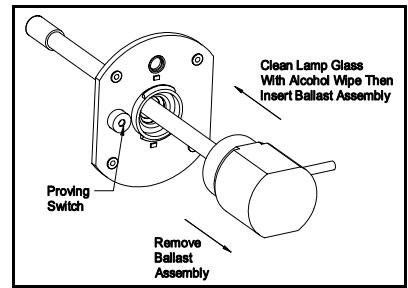

Figure 5
- Wipe off the bulb glass with the supplied alcohol wipe. Then insert the bulb through the center hole of the mounting base. (See Figure 5) The power cord must be 90° to the view port hole on the mounting base.
- Remove the ballast assembly and bulb from the mounting base. (See Figure 5)
- Slide the bulb thought the hole in the mounting base. (See Figure 5)